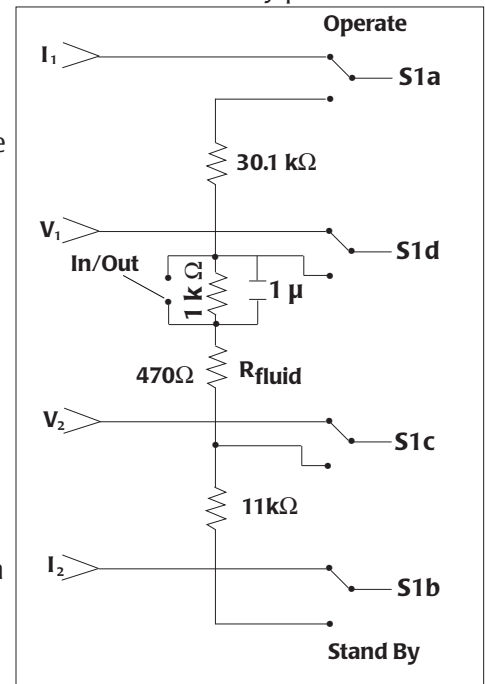

Fig. 2 – Resistance in Stand By Mode – 41.57 KΩ
**Operate/Stand By:** In **Operate** mode, input electrode connectors  $I_1$ ,  $V_1$ ,  $I_2$ , and  $V_2$  are connected to the preamplifier. In **Stand By** mode, the preamplifier is disconnected from external electrodes and is connected instead to a resistor network (see Figure 2).
Connect the preamplifier cable to the receptacle of any available module on the front panel of the instrument. Place the Operate/Stand By switch in Stand By position and the Dummy In/Out toggle switch In. This causes dummy electrodes composed of resistors, as shown in Figure 2 to be inserted across the probe input connector array. Connect the instrument power cord to the power line and turn the instrument power on using the rear panel power switch. Two green lamps should light; one adjacent the PD push button and another on the preamplifier panel. Set the METER switch to mV. Push the ZERO CHECK button on the probe and note that the digital panel meter will display zero mV. Releasing the button allows the Coarse and Fine adjustment knobs to control the input offset voltage. Note that rotating these knobs will cover a range of approximately  $\pm 30$  mV allowing the user to adjust small voltage electrode asymmetries to zero. Adjust the offset voltage so that the meter reads 0.0 mV; do not adjust the offset voltage further.
Push the VC button. The red lamp next to the button should light, indicating that the instrument is in the voltage clamp operating mode. Keep the FLUID RES. COMPENSATION knob at zero. Place the polarity toggle switch in the + position and rotate the SET CLAMP I/V knob. Note that one full turn indicates 10.0 mV on the digital meter. Reversing the polarity toggle switch will yield -10.0 mV. Rotate the SET CLAMP I/V knob until a voltage of about 14.7 mV is reached. Switch METER SELECT to microamperes (mA), a clamping current of 10 (+/-1) microamperes will result. To test the alarm for maximum clamp current of 1 mA, place the Dummy In/Out toggle switch at Out. This essentially connects EVC4000 to a 470 Ohm resistor, which is used to simulate fluid resistance, as shown in Figure 2 on page 2. Rotate the FLUID RES. COMPENSATION dial knob for approximate four full turns until a reading of 4.0 is displayed on the dial. Now, turn the METER SELECT back to mV position and then rotate the SET CLAMP I/V knob to increase the set voltage. At about 70 mV of set voltage, at which a clamping current of 1 mA is required, alarm lamps and audible signals are activated.